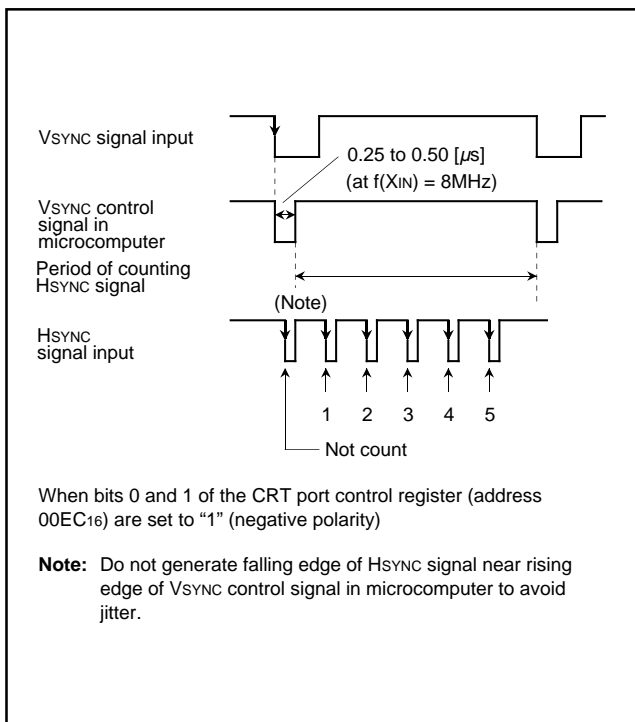

Fig. 35. Supplement explanation for display position
**Note:** When bits 0 and 1 of the CRT port control register (address 00EC16) are set to "1" (negative polarity), the vertical position is determined by counting falling edge of HSYNC signal after rising edge of VSYNC control signal in the microcomputer (refer to Figure 35).